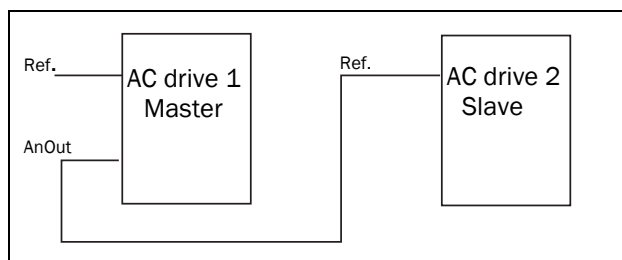

Fig. 141
- a reference signal for the next AC drive in a Master/Slave configuration (see fig. 141).